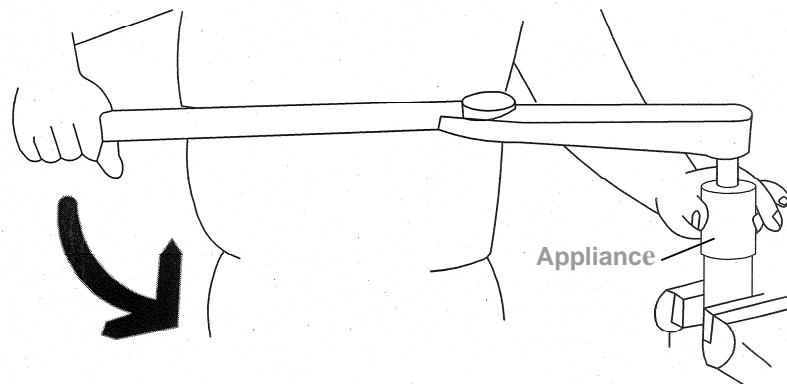

Fig. 97
**(3) Pulse Unit Disassembly:**
- ① Fix the pulse unit by a vise. Use the appliance (see Table 13) to loosen the lock nut on the pulse unit, Fig. 97.